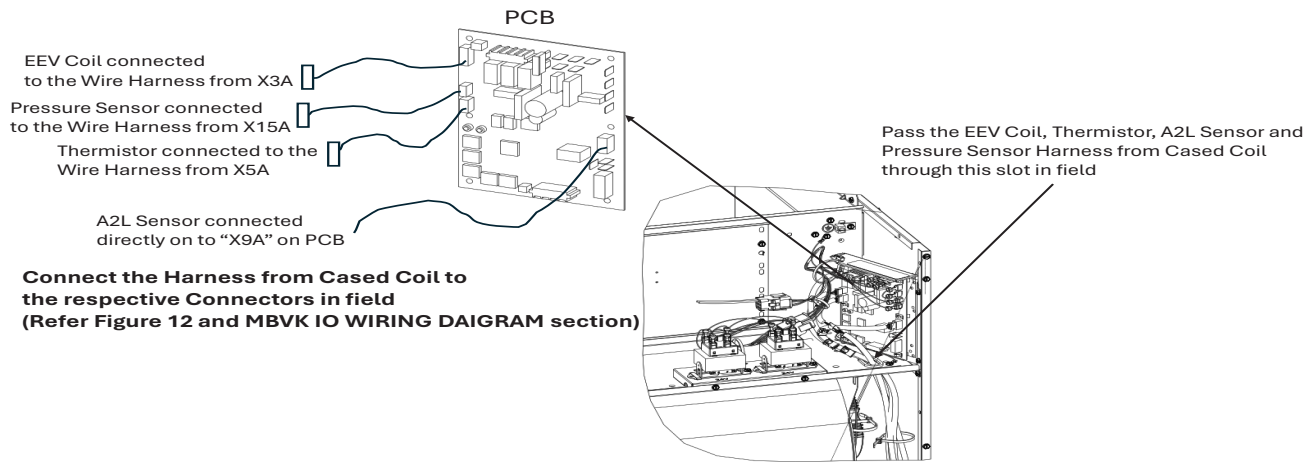

Figure 1A
4. Refer Figure 1A for harness routing details
5. Refer Figure 1A for harness routing details